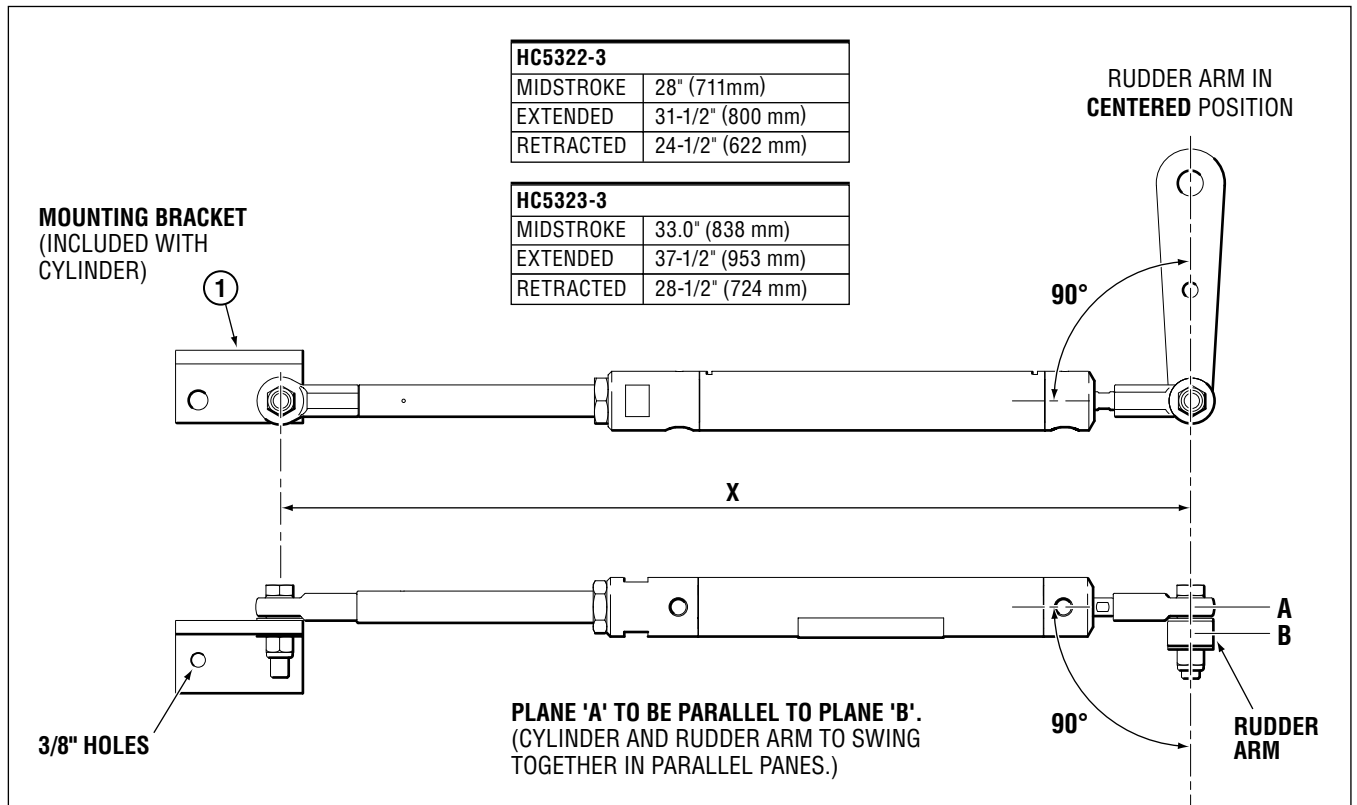

Figure 8. Correct Cylinder to Rudder Arm Mounting Orientation.
2. To achieve **MAXIMUM** performance, cylinder is to be mounted at a right angle (90°) to the rudder arm when in the center position (refer to Figure 8 below).
5. Place rudder in midstroke position and extend cylinder to mid stroke (see Figure 8).
6. Temporarily install the other rod end into the mounting bracket (item 1, Figure 8). Using the bracket as a template, mark off the positions of the two 3/8" holes on the mounting surface.
8. Mount the bracket (item 1, Figure 8) with through bolts, washers and nuts (not supplied by SeaStar Solutions). DO NOT USE LAG BOLTS.